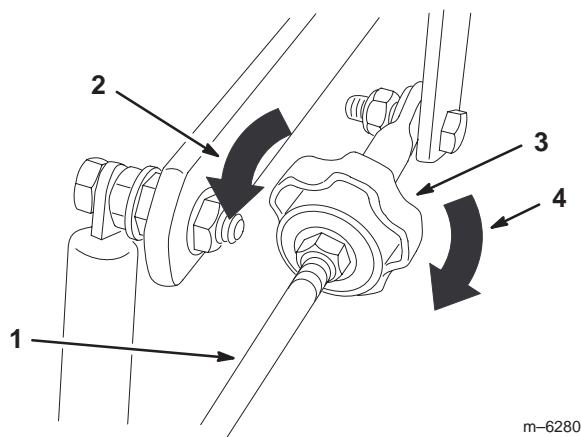

Figure 53
4. To make the machine go right, turn the knob towards the rightside of the machine. Refer to figure 53.
5. To make the machine go left, turn the knob towards the leftside of the machine. Refer to figure 53.